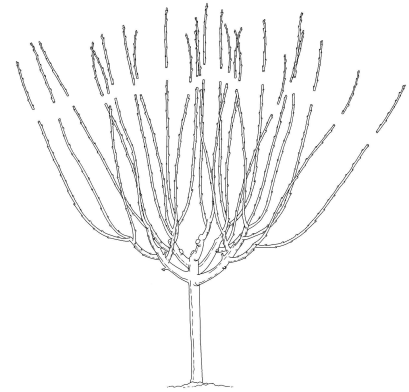

Figure 17
- Leaders on moderately or highly productive varieties of semi-vigorous rootstocks and highly productive varieties of full-sized rootstocks must be tipped. Remove a quarter of the new growth to balance the leaf-area-to-fruit ratio and produce high-quality fruit (Figure 17).
- If the tree is not yet 8 feet tall, remove a quarter of the new shoot growth from each leader. (Figure 17)